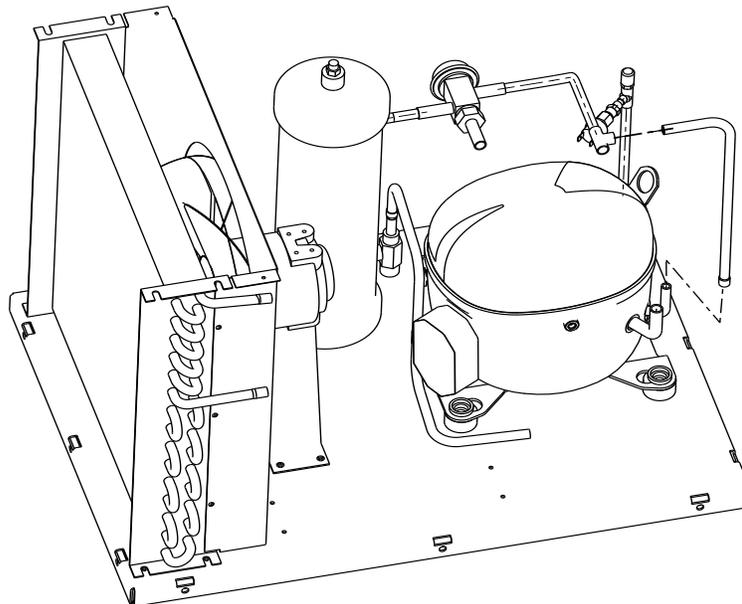

Figure 7. Connection of discharge line
9. Connect the discharge tube as shown in Figure 7.